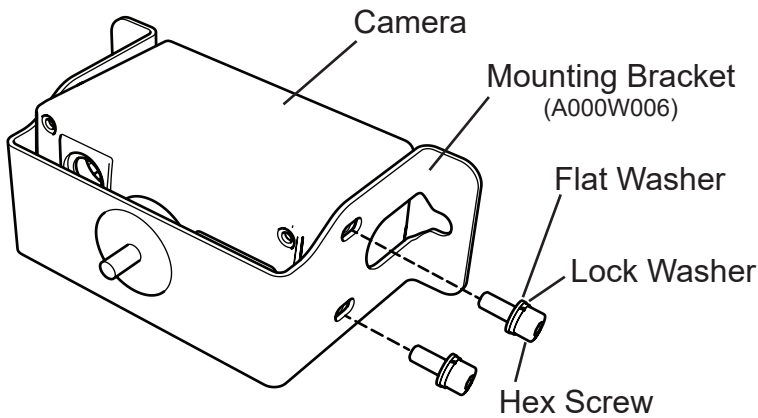

Figure 2
5. Secure a Convoy Model 1200A camera to mounting bracket (A000W006) with four hex screws with flat and lock washers supplied with the Convoy Model 1200A camera, see Figure 2.